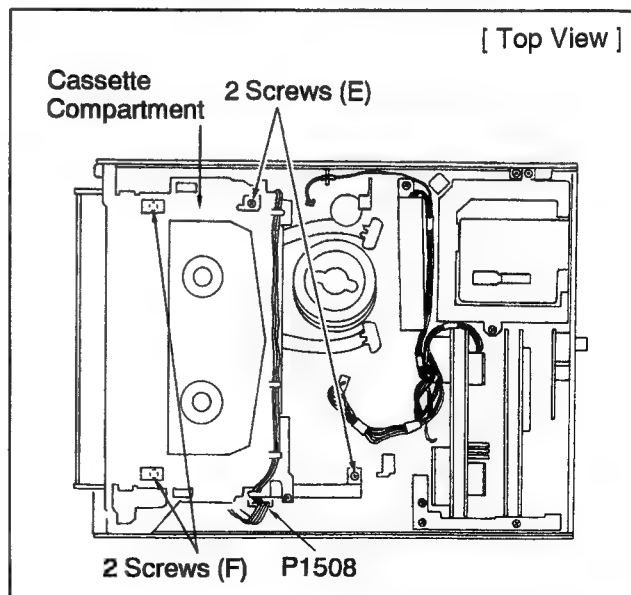

Figure D6
1. Unscrew 2 screws (E) and slide the Cassette Holder Until appearing 2 screws (F) and then unscrew 2 screws (F) (Figure D6.).